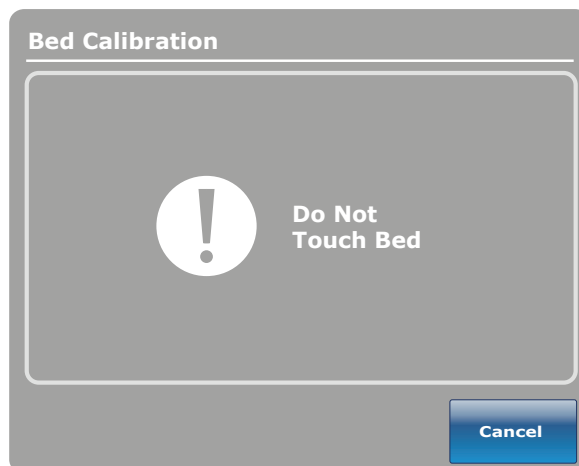

Figure 8
8. Press the **Next** button when done. The “Do Not Touch Bed” screen will appear as shown in Figure 8.